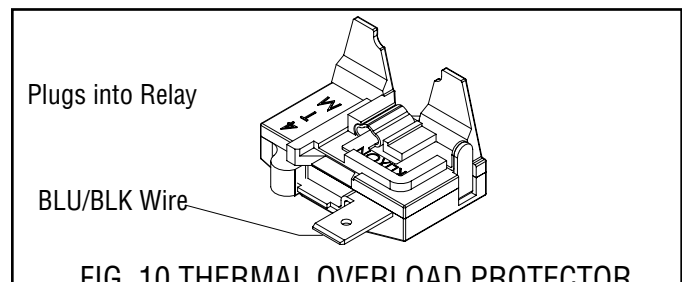

FIG. 10 THERMAL OVERLOAD PROTECTOR TERMINALS
1. Remove terminal cover (1).
3. Remove relay (2).
4. Remove overload protector (3) and discard overload protector.
5. Install new overload protector (3) on to the compressor.
6. Install relay (2).
7. Refer to Fig. 10 and reconnect the thermal overload protector wires.
8. Reinstall terminal cover (1).